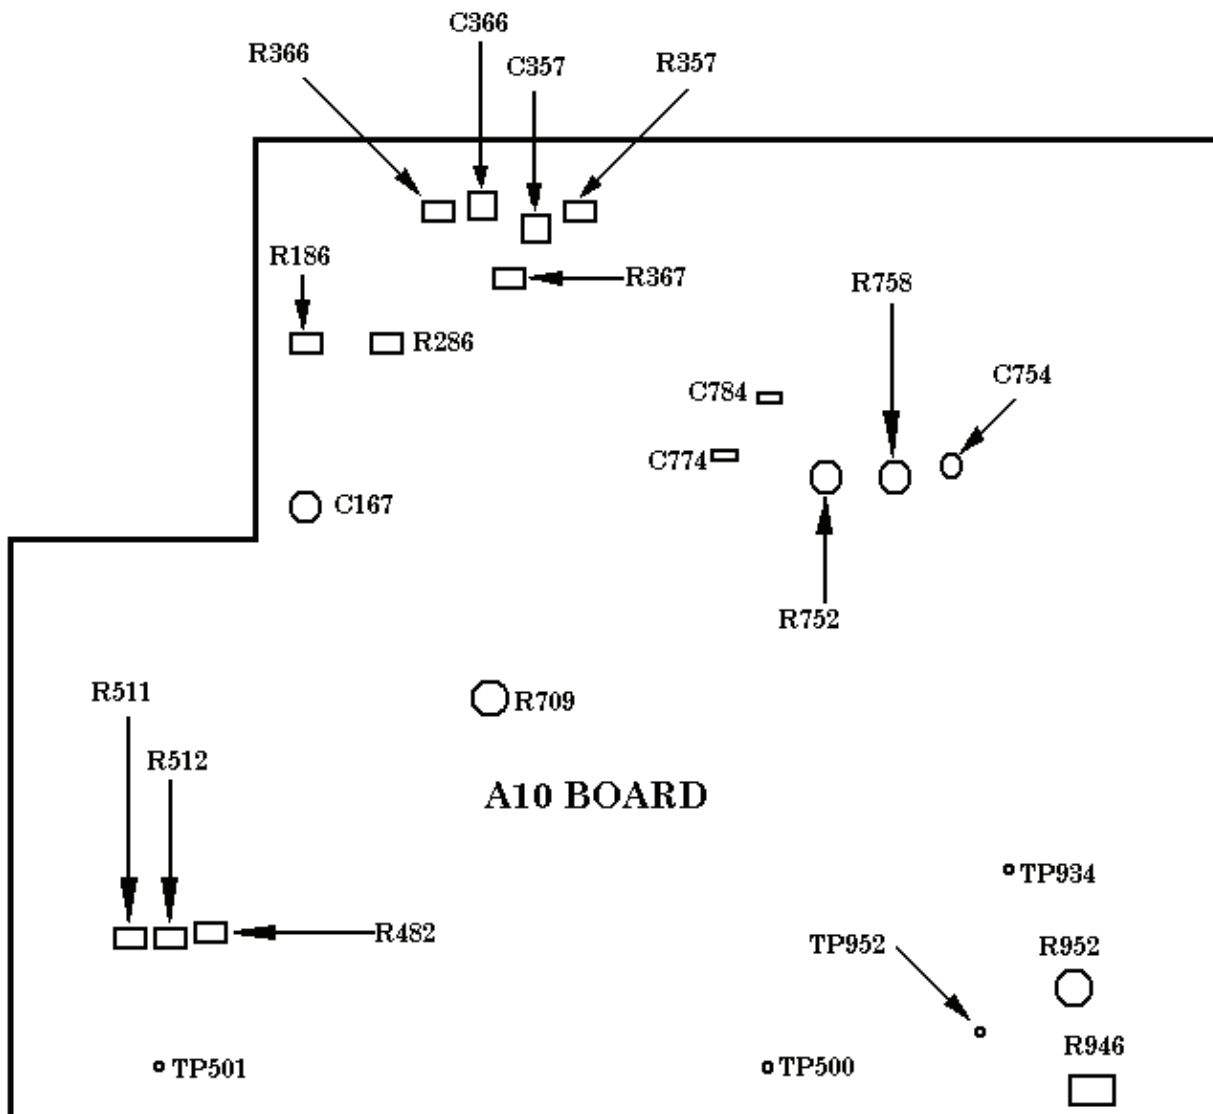
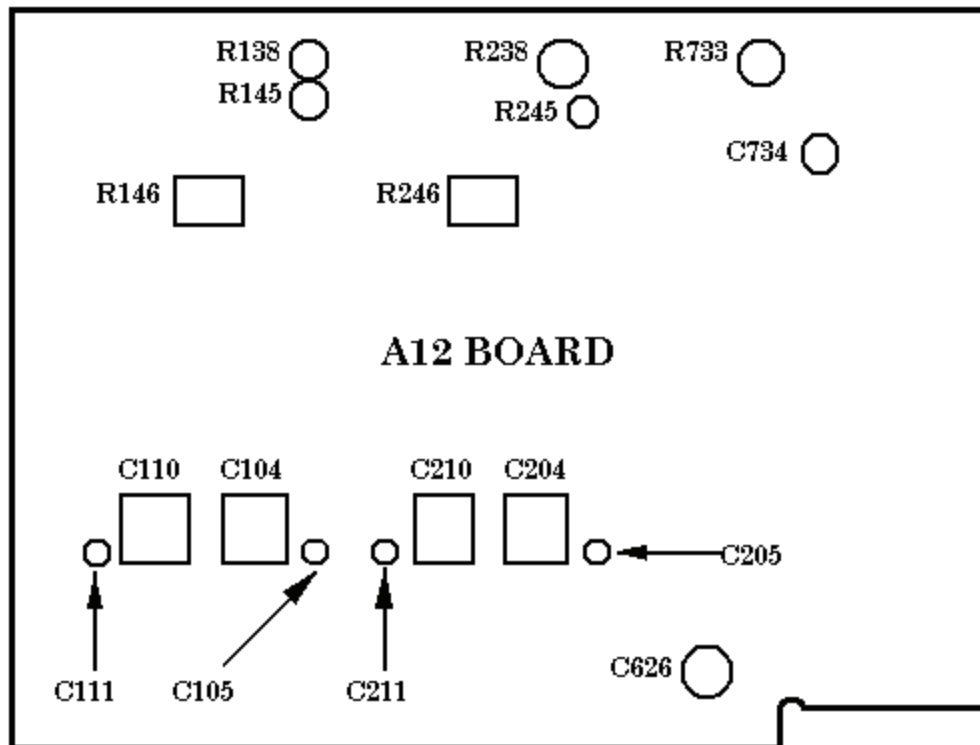

Figure 1. Adjustment locations A10 board.
Figure 2. Adjustment location A12 board.
- (3) Connect oscilloscope calibrator **SOURCE/MEASURE CHAN 1** to **TI CH 1 OR X** input.
- (4) Set oscilloscope calibrator for a **CH 1 VOLTAGE** output of 100 mV at 1 kHz.
- (5) Adjust R186 (fig. 1) for exactly 5 divisions of TI vertical deflection (R).
- (6) Change oscilloscope calibrator output amplitude to 10 mV.
- (7) Set TI CH 1 VOLTS/DIV switch to **2m**.
- (8) Adjust R145 (fig. 2) for exactly 5 divisions of TI vertical deflection (R).
- (9) Set oscilloscope calibrator to **STANDBY**.
- (10) Set TI CH 1 AC GND DC switch to **GND**.
- (11) Set TI CH 1 VOLTS/DIV switch to **10m**.
- (12) Adjust CH 1  $\updownarrow$ POSITION control to position trace on center horizontal graticule line.
- (13) Set TI CH 1 VOLTS/DIV switch to **2m**.
- (14) Adjust R138 (fig.2) to position trace on center horizontal graticule line.
- (15) Repeat (11) through (14) above for minimum trace shift when setting CH 1 VOLTS/DIV from **10m** to **2m**.
- (16) Set TI CH 1 VOLTS/DIV switch to **20m**.
- (17) Adjust CH 1  $\updownarrow$ POSITION control to position trace on center horizontal graticule line.
- (18) Set TI CH 1 VOLTS/DIV switch to **10m**.
- (19) Adjust R146 (fig. 2) to position trace on center horizontal graticule line.
- (20) Repeat (16) through (19) above for minimum trace shift when setting **CH 1 VOLTS/DIV** from **10m** to **20m**.
- (21) Position TI switches as listed in (a) through (c) below:
- (22) Disconnect oscilloscope calibrator **SOURCE/MEASURE CHAN 1** from **TI CH 1 OR X** input.
- (23) Connect oscilloscope calibrator **SOURCE/MEASURE CHAN 1** to **TI CH 1 OR X** input using a  $50\ \Omega$  feedthrough termination.
- (24) Set oscilloscope calibrator for a **CH 1, EDGE** mode output of 1 kHz and adjust amplitude for 5 divisions of TI vertical deflection.
- (25) Adjust C105 (fig. 2) for best front corner and C104 (fig.2) for best flat top.
- (26) Set **TI CH 1 VOLTS/DIV** switch to **2**.
- (27) Adjust oscilloscope calibrator output for 5 divisions of TI vertical deflection.
- (28) Adjust C111 (fig. 2) for best front corner and C110 (fig.2) for best flat top.
- (29) Set oscilloscope calibrator to **STANDBY**.
- (30) Move oscilloscope calibrator **SOURCE/MEASURE CHAN 1** connection from **TI CH 1 OR X** input to **TI CH 2 OR Y** input.
- (31) Set **TI VERTICAL MODE CH 1 BOTH CH 2** switch to **CH 2**.
- (32) Set oscilloscope calibrator for a **CH 1 VOLTAGE** output of 100 mV at 1 kHz.